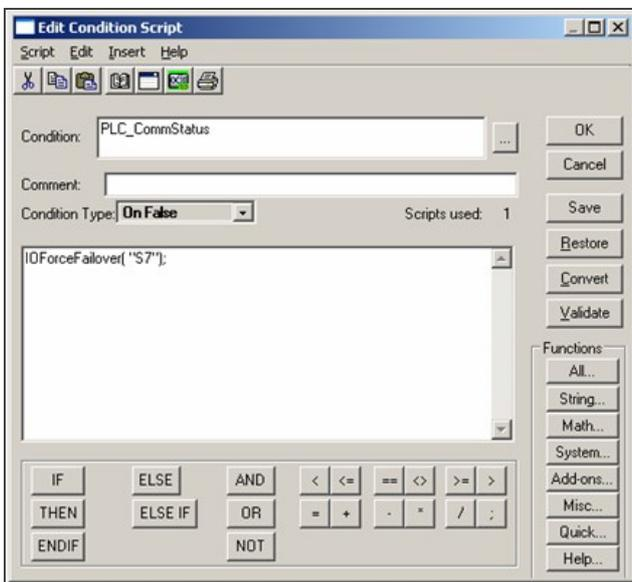

Figure 13: PLC_CommStatus Condition Script Configuration
- Configure the **PLC_CommStatus** Condition Script with the settings shown in Figure 13 (below).